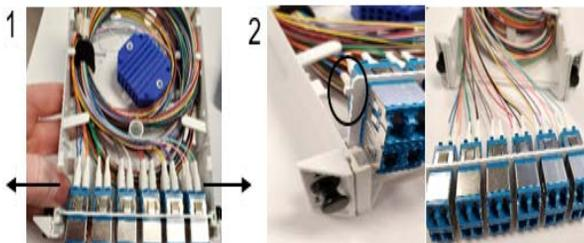

Figure 4
5.2 Each Fox Cassette faceplate is easily removed in two steps. **See Figure 4.**